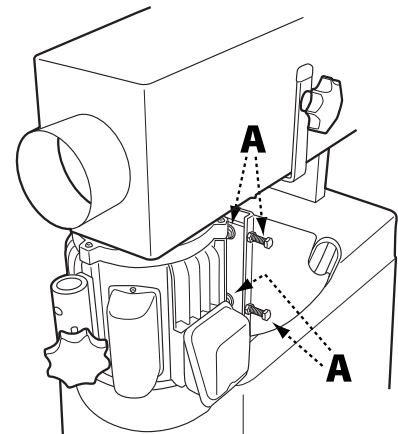

FIGURE 11
1. Loosen the four motor mount nuts (A) just enough so the tracking screws can be turned to make an adjustment. See Figure 11.